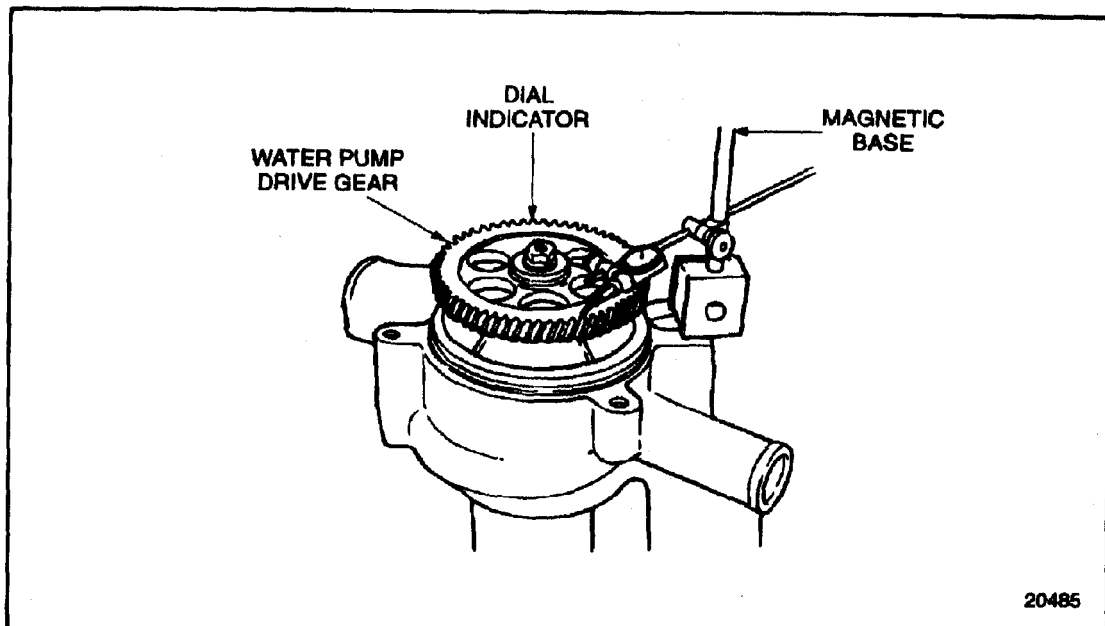

Figure 4-35 Measuring Water Pump Drive Gear Runout (GCM)
4. Using a dial indicator with magnetic base, measure the total run-out of the water pump drive gear at four places, at 90° intervals. Maximum allowable run-out is 0.0635 mm (0.0025 in.). See Figure 4-35.